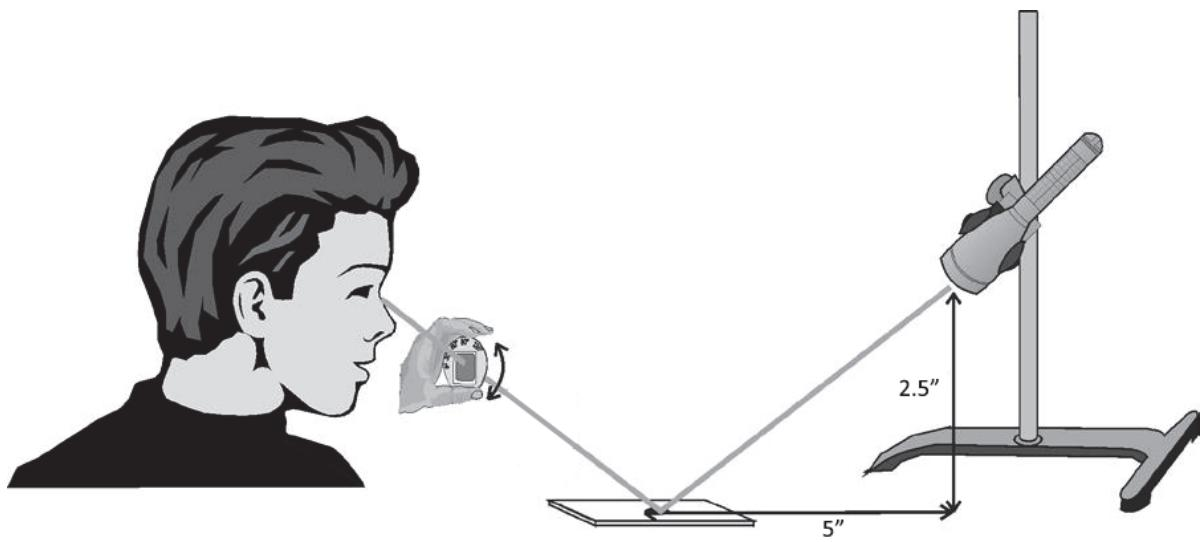

Figure 14 – Polarizer with Analyzer Illustrated
7. Hold a polarizing filter so you can see the reflection through the filter. Rotate the filter about the axis of the reflected beam. Refer to Figure 14. What do you observe about the brightness of the reflection as you rotate the filter?